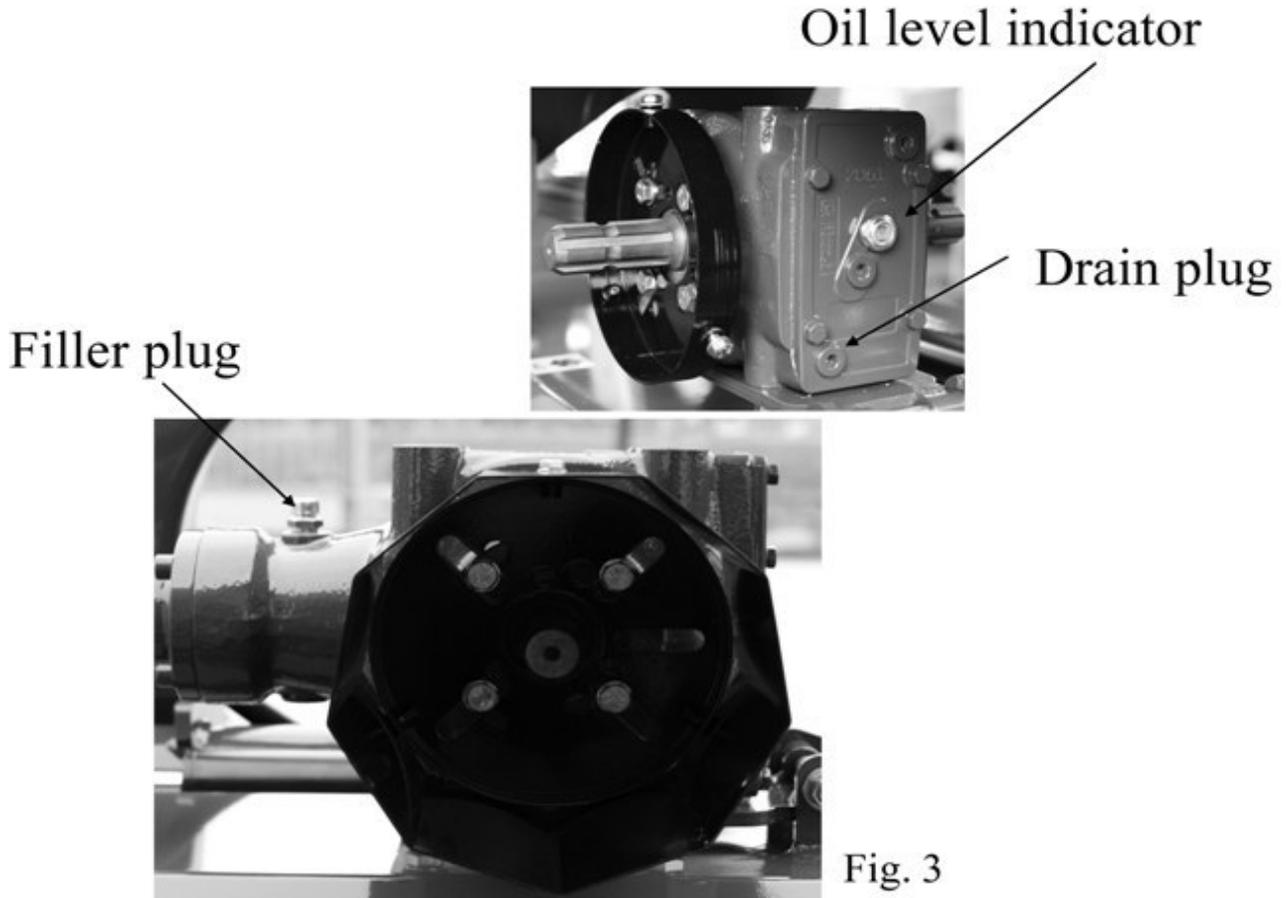

Fig. 3
- Verify the oil level in the gearbox through the oil level indicator placed on the side of the gearbox (see Fig.3). In case a refill is needed, unplug the oil filler cap from the top of the gearbox and proceed with the filling until the oil is visible again through the indicator